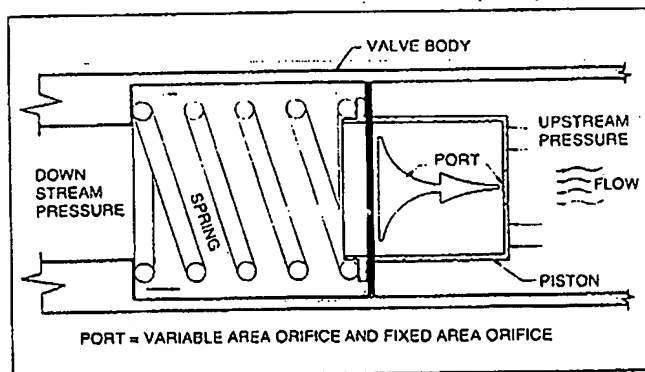

Fig. 21 Automatic Flow-Limiting Valve
A differential pressure-actuated flow control valve, also called an automatic flow-limiting valve (Figure 21), regulates the flow of fluid to a preset value when the differential pressure across it is varied. This regulation (1) helps prevent an overflow condition in the circuit where it is installed and (2) aids the overall system balance when other components are changing (modulating valves, pump staging, etc.).